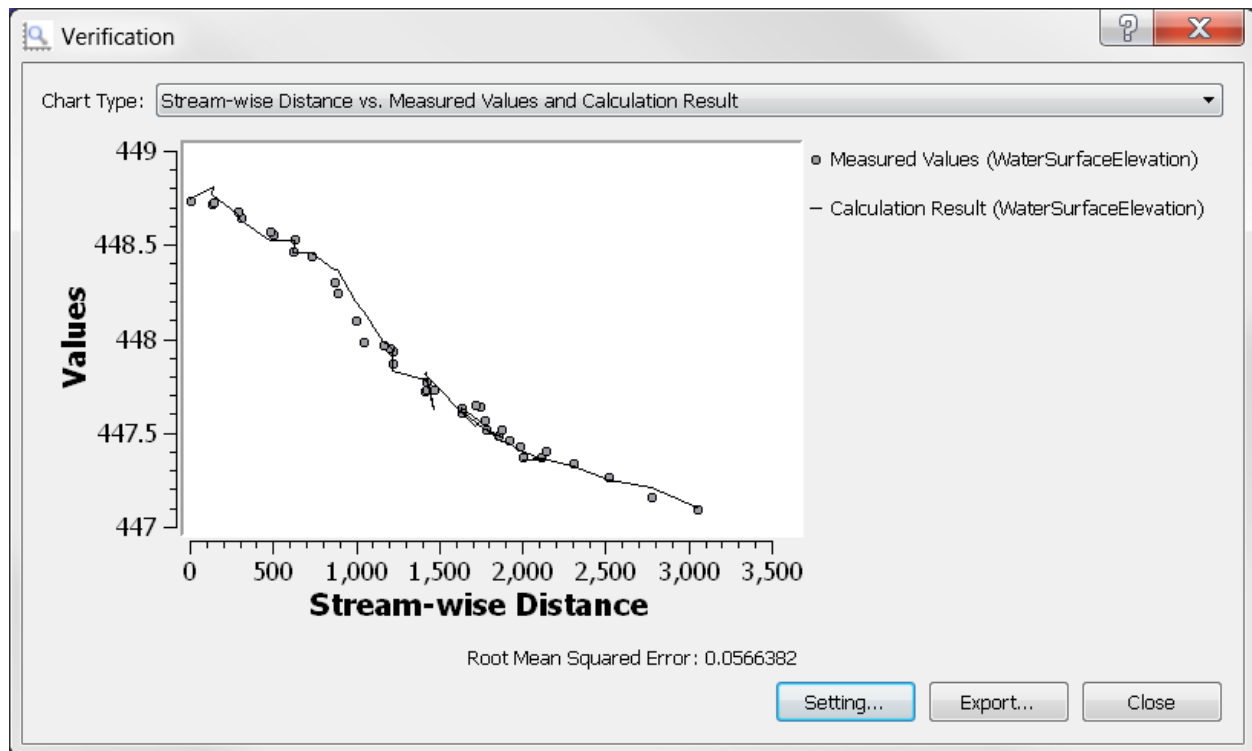

Figure 28. Comparison of the measured and simulated water-surface elevation using a spatially variable drag coefficient. RMS error is 0.056.
- When the simulation is complete, look at the Verification (Figure 28).